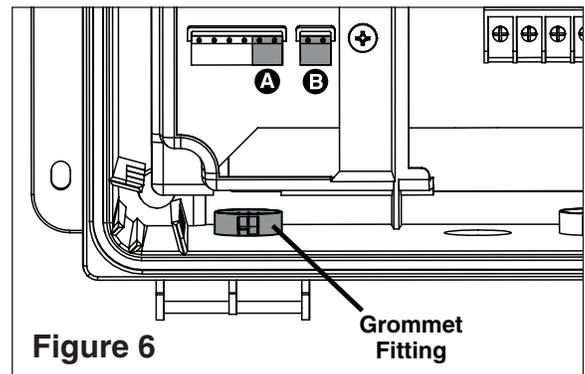

Figure 6 Grommet Fitting
3. Insert the cable into the left-most grommet fitting (**Figure 6**) in the bottom of the enclosure and pull the cable into the low voltage wiring compartment.
5. Insert the conductors into the temperature sensor terminals (see "A" in **Figure 6**) and secure the individual wires in their corresponding slots.
5. Insert the cable into the left-most grommet fitting (**Figure 6**) in the bottom of the enclosure and pull the cable into the low voltage wiring compartment.
7. Insert the conductors into the heater connection terminal (see "B" in **Figure 6**) and secure the individual wires to their corresponding slots.